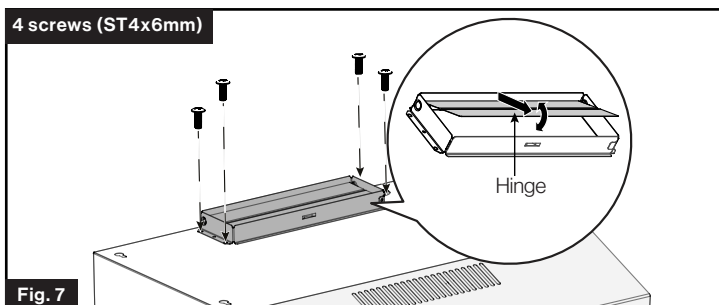

Fig. 7
3. Attach the rectangle damper properly. Fix rectangle damper to the top by 4 screws (ST4x6mm). (Fig. 7)